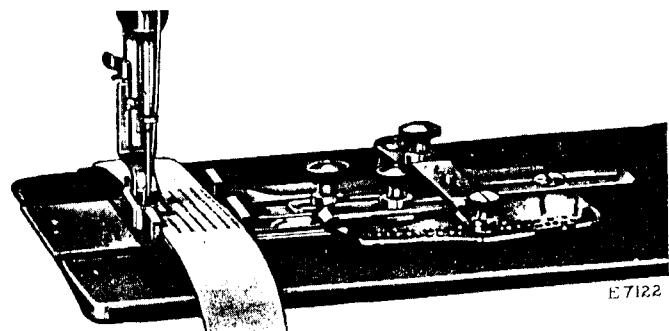
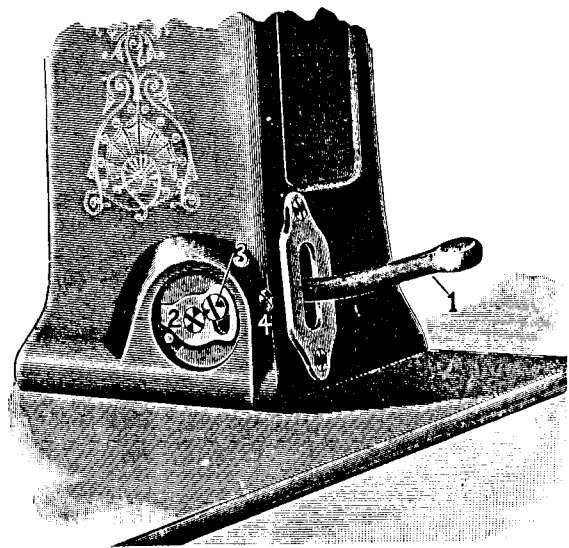

Fig. 11. Joining Ends of Belt
Fig. 16
should be set so that the needle will enter the belt the proper distance from the edge for the first line of stitching. Lower the presser foot and sew the first seam nearly to end of lap, then raise the presser foot, move the lever (H) one hole, thus moving the belt, lower the presser foot, reverse the feed by means of the handle (I, Fig. 16) and sew the second seam parallel to the first. Repeat this operation until the full width of the belt is covered by several parallel lines of stitching running lengthwise of the belt, as shown in Fig. 11.
Raise feed regulating handle (1, see Fig. 16) as high as it will go and the machine will feed from you with the longest
The upward movement of the feed regulating handle (see Fig. 16) may be stopped at any position desired by setting stop (2) for the purpose. Should the stitch be shortened or reversed, this adjustment assures the return of the feed to the same length of stitch used before making the change.